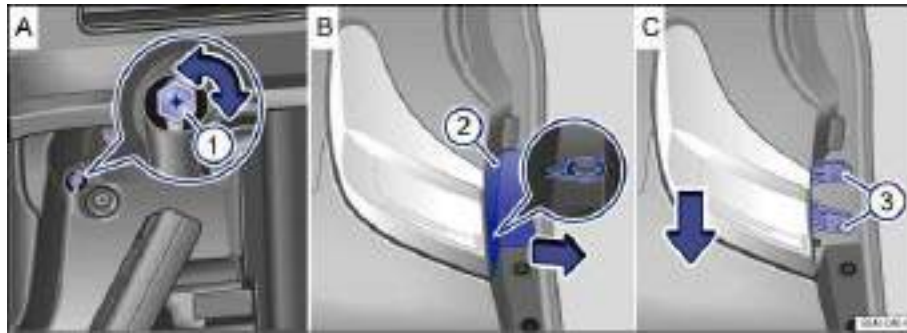
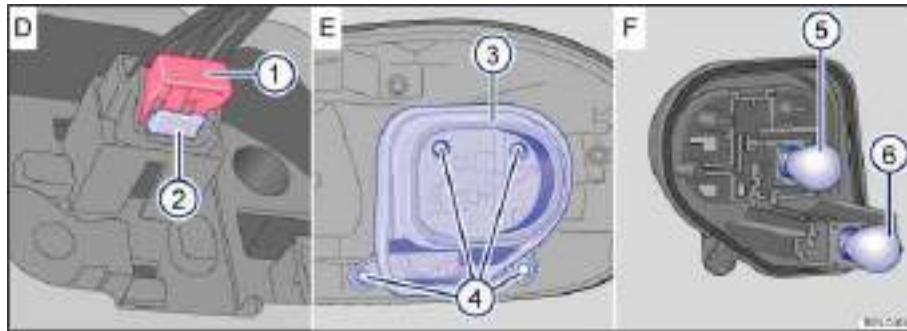

Fig. 206 In the side of the luggage compartment: Releasing the tail light, removing the trim panel and removing the screws.
Fig. 207 Removed tail light: Removing the bulb holder and replacing the tail light and brake light bulb 3 or turn signal bulb 4.
3.	Insert the wire bracket from the vehicle tool kit into the small hole in the trim panel ⇒ fig. 206 (2) B . Remove the trim panel in the direction of the arrow using the wire bracket.
5.	Using the Phillips screwdriver from the vehicle tool kit, turn the locking mechanism (1) A 90 ° counterclockwise until it stops.
6.	Remove the screws (3) C.
8.	Remove the red locking mechanism ⇒ fig. 207 (1) D as illustrated and disconnect the electrical connector with the lever (2) D pressed down.
14.	Turn the locking mechanism ⇒ fig. 206 (1) A 90 ° clockwise until it stops.
15.	Insert the electrical connector into the bulb holder until it clicks into place. Press the red locking mechanism ⇒ fig. 207 (1) D back in.
17.	Hold the tail light in the correct position with one hand and tighten the screws with the other hand (3) C.
18.	Insert the trim panel ⇒ fig. 206 (2) B into its original position, first at the bottom and then at the top.